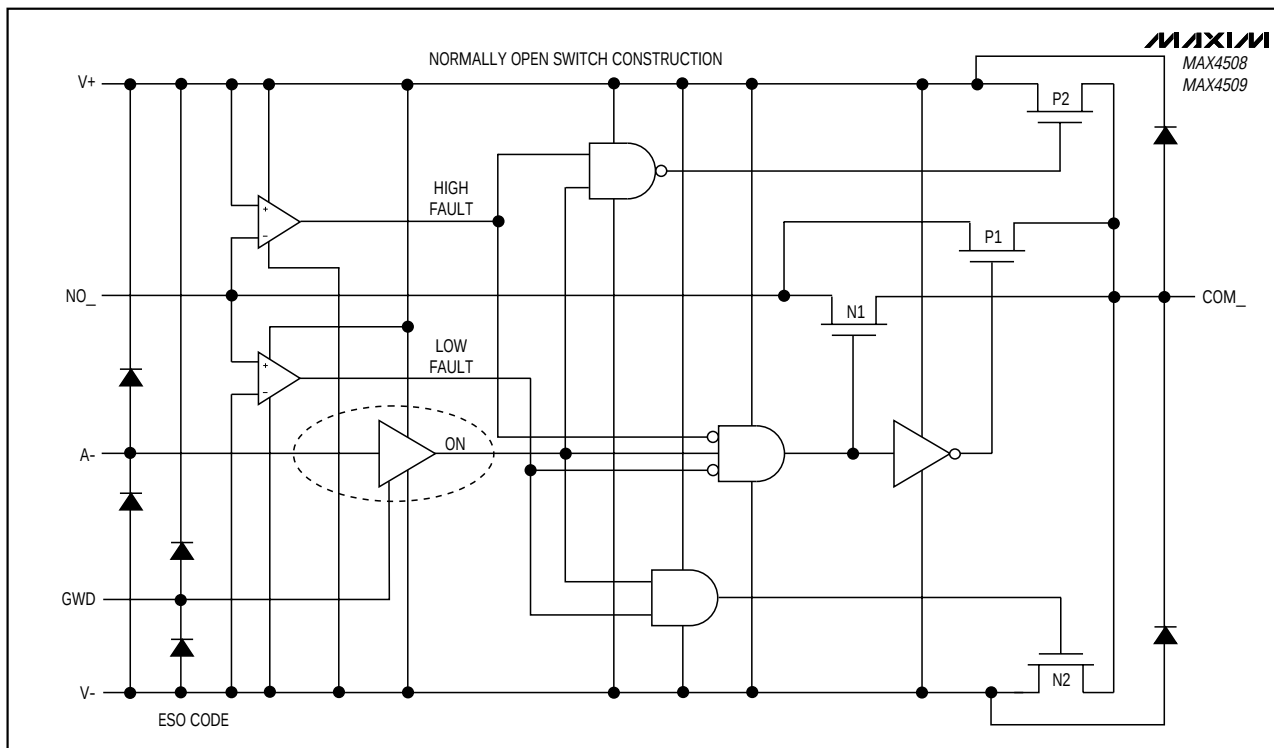

Figure 1. Functional Diagram
Figure 1 shows the internal construction, with the analog signal paths shown in bold. A single normally open (NO) switch is shown. The analog switch is formed by the parallel combination of N-channel FET N1 and P-channel FET P1 which are driven on and off simultane-
Two comparators continuously compare the voltage on the NO₋ pin with V₊ and V₋ supply voltages. When the signal on NO₋ is between V₊ and V₋, the multiplexer behaves normally, with FETs N1 and P1 turning on and off in response to A₋ signals (Figure 1). The parallel combination of N1 and P1 forms a low-value resistor between NO₋ and COM₋ so that signals pass equally well in either direction.
When the signal on NO₋ exceeds V₊ by about 150mV, the positive fault comparator output goes high, turning off FETs N1 and P1 (Figure 1). This makes the NO₋ pin high impedance, regardless of the switch state. If the switch state is "off," all FETs turn off, and both NO₋ and COM₋ are high impedance. If the switch state is "on," FET P2 turns on, clamping COM₋ to V₊.
When the signal on NO₋ goes about 150mV below V₋, the negative fault comparator output goes high, turning off FETs N1 and P1 (Figure 1). This makes the NO₋ pin high impedance, regardless of the switch state. If the switch state is "off," all FETs turn off, and both NO₋ and COM₋ are high impedance. If the switch state is "on," FET N2 turns on, clamping COM₋ to V₋.
FETs N2 and P2 can source about ±10mA from V₊ or V₋ to the COM₋ pin in the fault condition (Figure 1). Ensure that if the COM₋ pin is connected to a low-impedance load, the absolute maximum current rating of 30mA is never exceeded, either in normal or fault conditions.